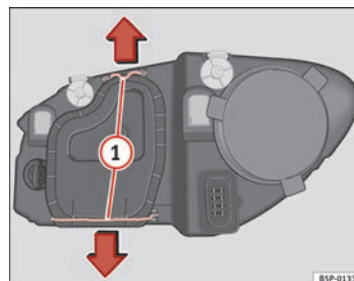

Fig. 164 Dipped beam headlights
- Remove the loops ⇒ fig. 164 1 in the direction of the arrow and remove the cover.